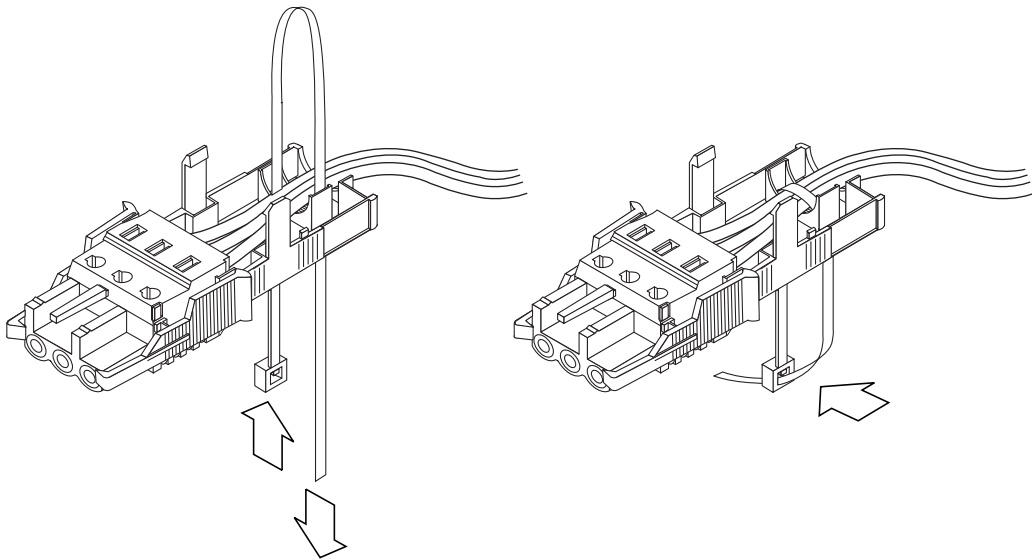

FIGURE 2-14 Securing the Wires to the Strain Relief Housing
- 4. Loop the tie wrap over the wires and back out of the strain relief housing and tighten the tie wrap to secure the wires to the strain relief housing (FIGURE 2-14).**